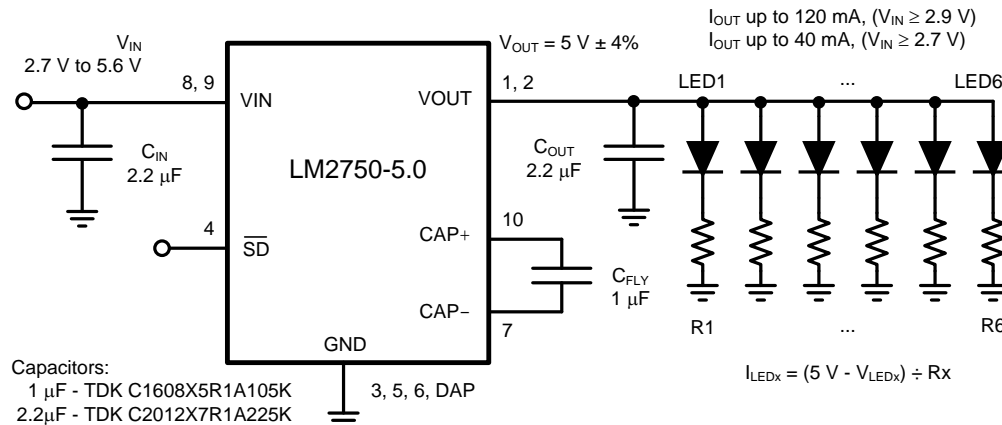
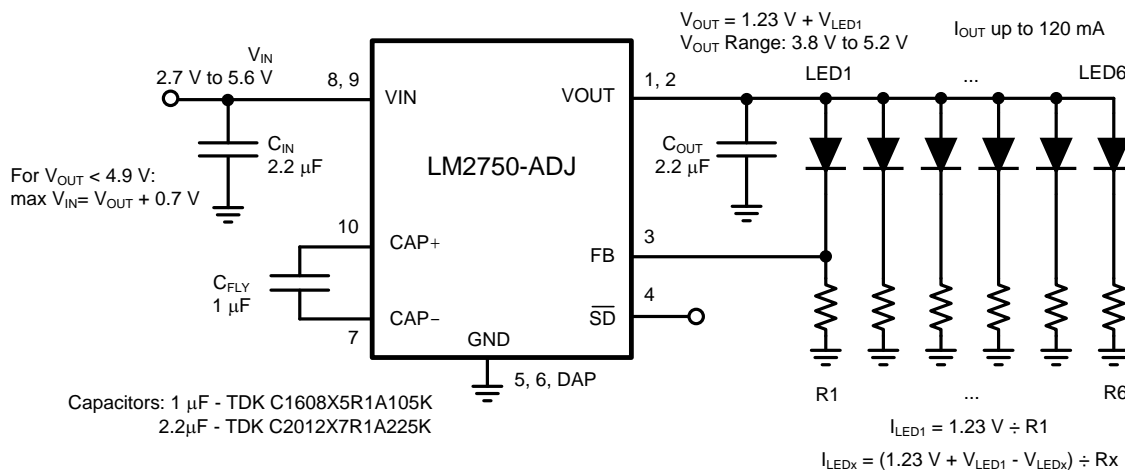

Figure 15. LM2750-5.0 LED Drive Application Circuit
Figure 16. LM2750-ADJ LED Drive Application Circuit
The LM2750 is an excellent part for driving white and blue LEDs for display backlighting and other general-purpose lighting functions. The circuits of Figure 15 and Figure 16 show LED driver circuits for the LM2750-5.0 and the LM2750-ADJ, respectively. Simply placing a resistor (R) in series with each LED sets the current through the LEDs:
The feedback pin of the LM2750-ADJ can be utilized to help better control brightness levels and negate the effects of LED forward voltage variation. As shown in Figure 16, connecting the feedback pin to the primary LED-resistor junction (LED1-R1) regulates the current through that LED. The voltage across the primary resistor (R1) is the feedback pin voltage (1.23 V typical), and the current through the LED is the current through that resistor. Current through all other LEDs (LEDx) is not regulated, however, and varies with LED forward voltage variations.